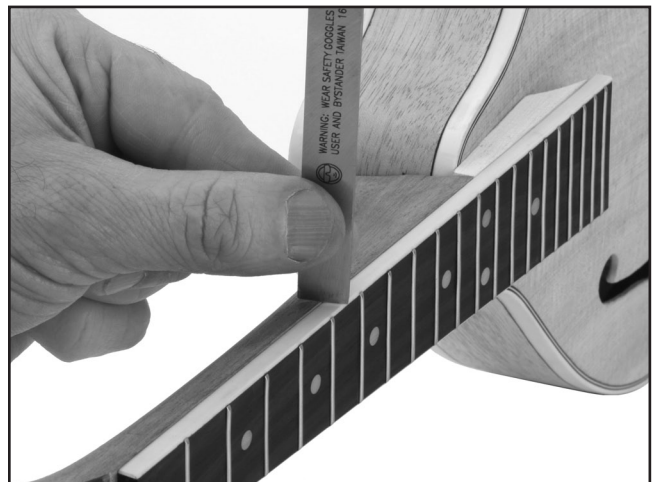

Figure 20. Example of removing glue residue.
2. Carefully scrape away any glue residue with a sharp chisel held perpendicular to the surface as shown in **Figure 20**.